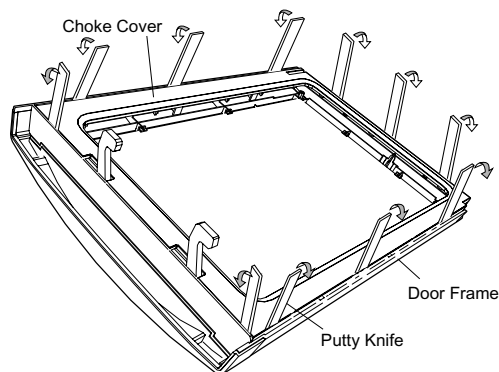

Figure C-6. Door Disassembly
3. Insert a putty knife (thickness of about 0.5mm) into the gap between the choke cover and corner portion of door panel as shown in Figure C-6 to free engaging parts.
4. Pry the choke cover by inserting a putty knife as shown Figure C-6.